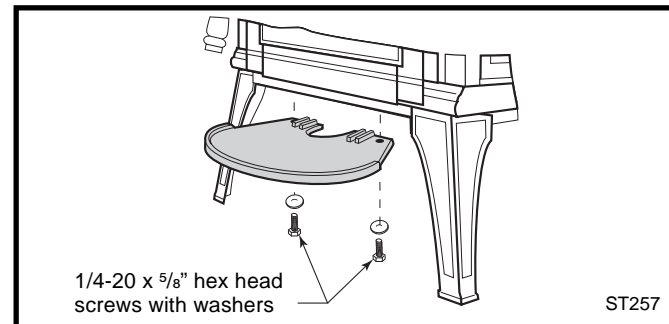

Fig. 23 Attach the Ashlip to the bottom plate.
Use a 7/16" wrench to secure the Ashlip to the stove bottom with two, 1/4-20 x 5/8" hex head screws and washers found in the hardware bag inside the stove. (Fig. 23)
2. Locate the hex bolt (Fig. 23) located in the center rear edge of the stove bottom plate. Loosen this bolt just enough to engage the Adapter clevis tab under the washer and then retighten.